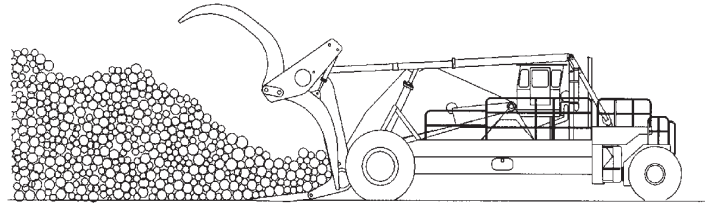

Fig. 5-18
2. Move into the deck and simultaneously tilt the carriage fully forward. The logs should roll up into the back of the carriage. Move into the deck as far as possible. See Fig. 5-18.